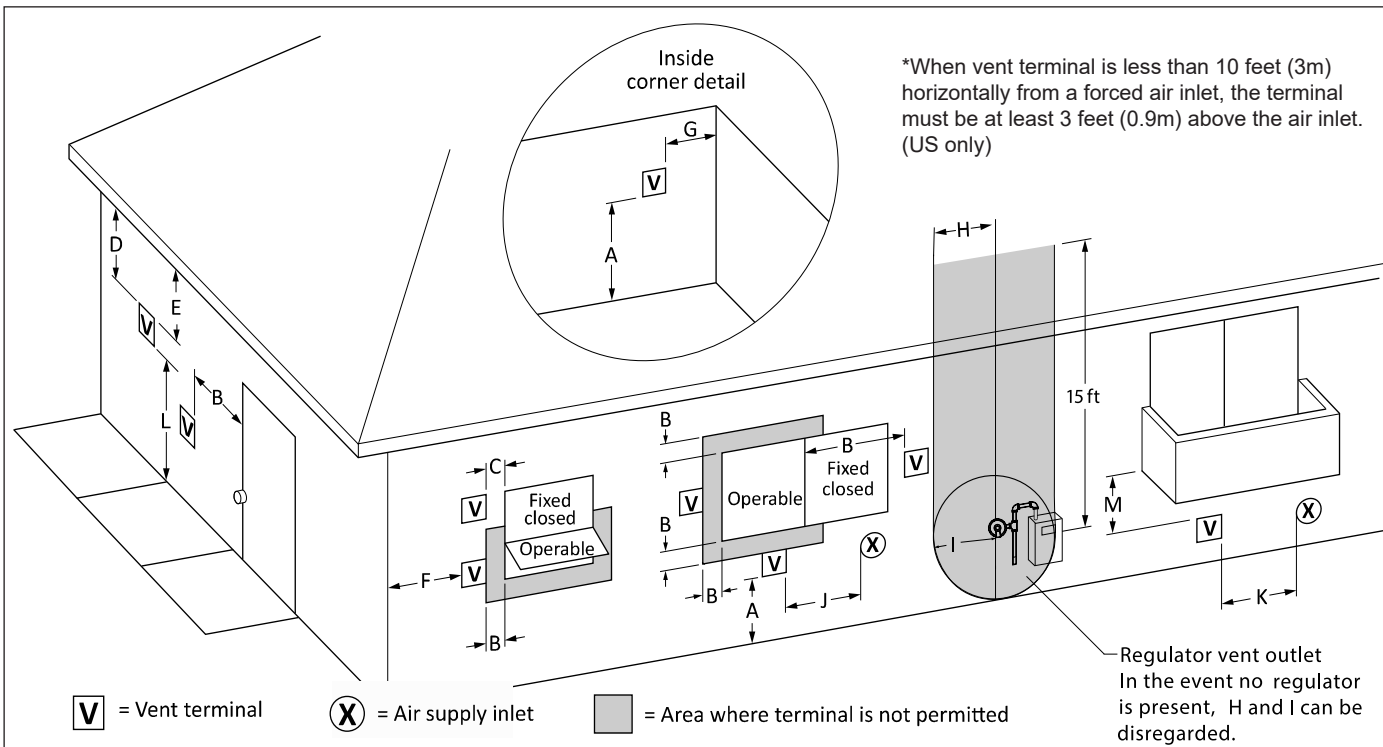
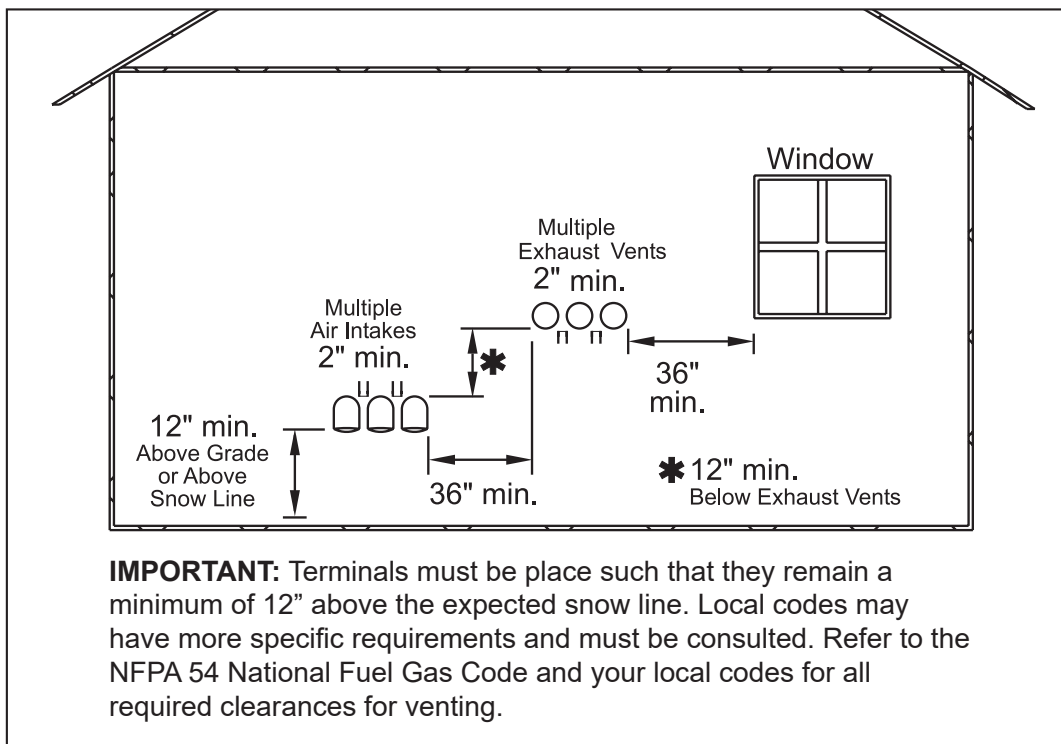

Figure 20. Combustion Air and Vent Through Side Wall
Figure 21. Multiple Side-Wall Terminals,
1. Figure 20 shows the requirements for mechanical vent terminal clearances for the U.S. and Canada. The outdoor models must be installed at least 10 ft (the vent pipe) from any door or window that can be opened. The exhaust vent shall not be under any overhang or roof. Use only the vent components included with the boiler.
The side wall combustion air terminal, or concentric terminal must be used when the heater takes air from a side wall. (See page 23) Contact manufacturer for AL29-4C termination fittings. Consider the following when installing the terminal. (See Figure 20 through Figure 21.)